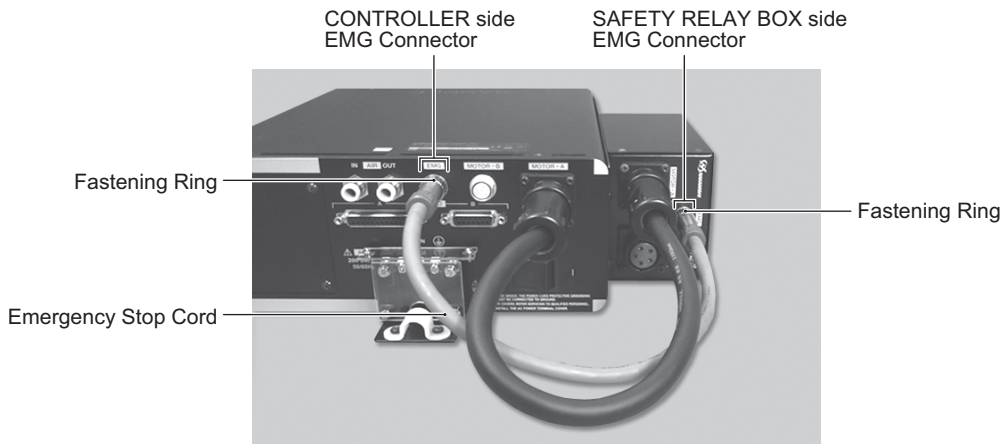

Fig. 7
- ④ Insert the provided Emergency Stop Cord Plug into the EMG Connector (EMG) of the CONTROLLER and EMG Connector (EMG) of the SAFETY RELAY BOX. Secure the Fastening Ring turn the clockwise (Fig. 7).